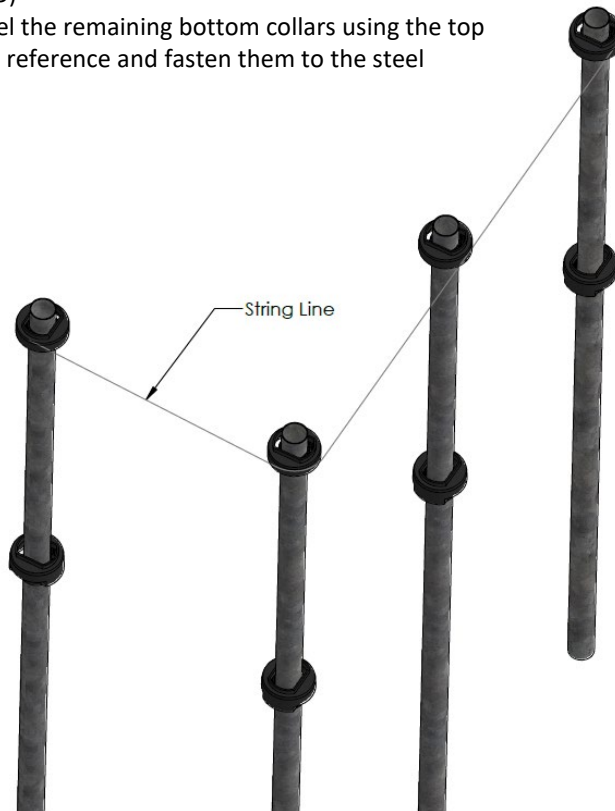

Figure 5
- Once the corner and end post collars are set, run a string line along the top collars for each run of fence. (*Figure 5*)